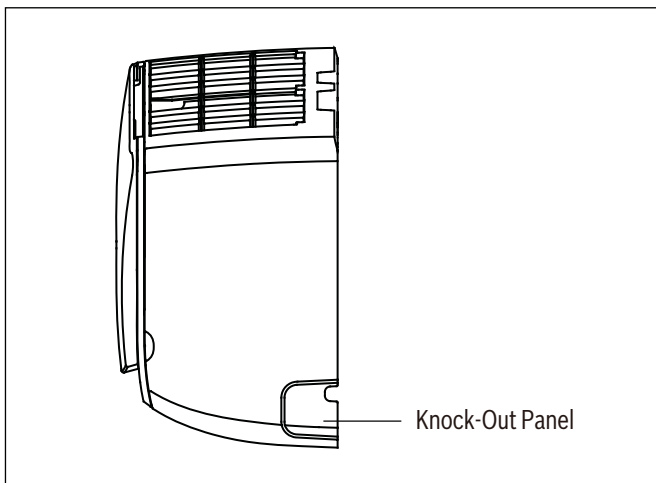

Figure 10
2. If the wall hole is behind the unit, keep the knock-out panel in place. If the wall hole is to the side of the indoor unit, remove the plastic knock-out panel from that side of the unit. (See Figure 10). This will create a slot through which your piping can exit the unit. Use needle nose pliers if the plastic panel is too difficult to remove by hand.